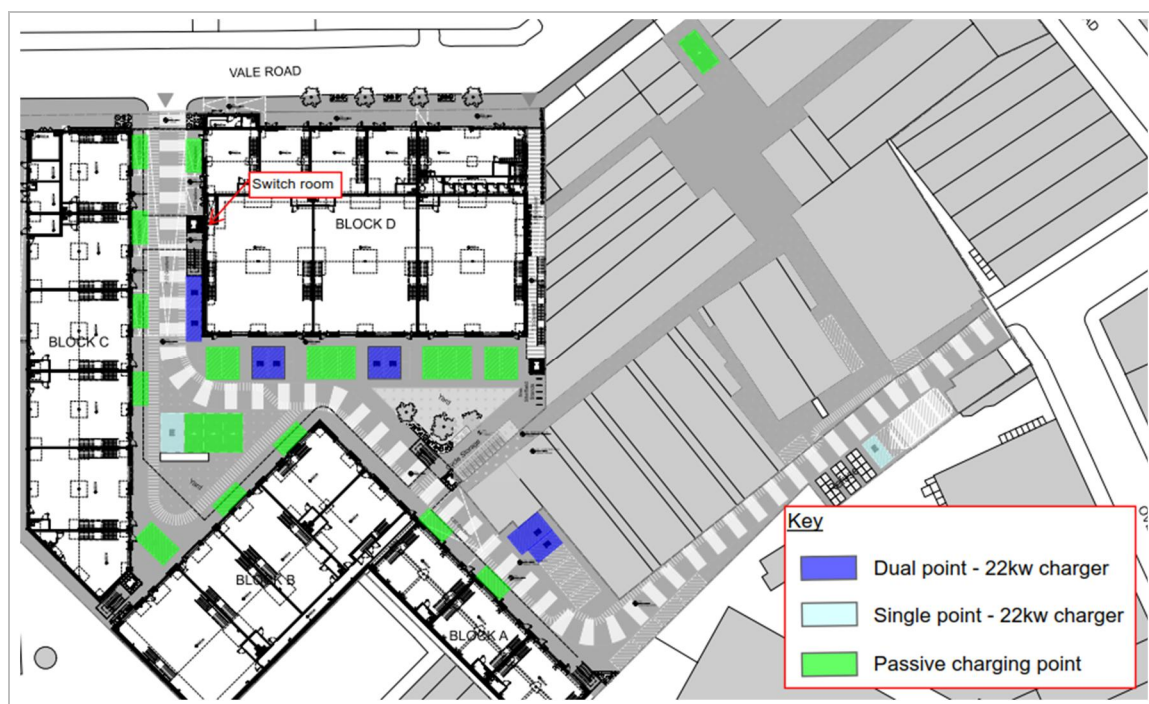

Figure 2.1 – Location of proposed electric vehicle charging points
- 2.2 There will be a portion of retained parking spaces around the site which will relate to the existing Florentia Village business space. The extension scheme will include 10 no. dedicated Electric Vehicle Charging Points (EVCP) on opening - Figure 2.1 indicates the location of the proposed EVCPs for the development.
- 2.3 As illustrated in Figure 2.1, the active EV charging points will be distributed around the site to enable all occupants of the commercial units reasonable access to EVCPs. The remaining spaces within the new development space are identified as 'passive' spaces which can be used for future EVCPs when demand requires.
- 3.2 The system shall comprise 4 dual 22kw points and 2 single 22kw point (10 no. total EV charging points) connected individually to a dedicated distribution board within the switch room of Block D, as indicated on Figure 2.1. The units shall be post-mounted type in proprietary mountain bases.